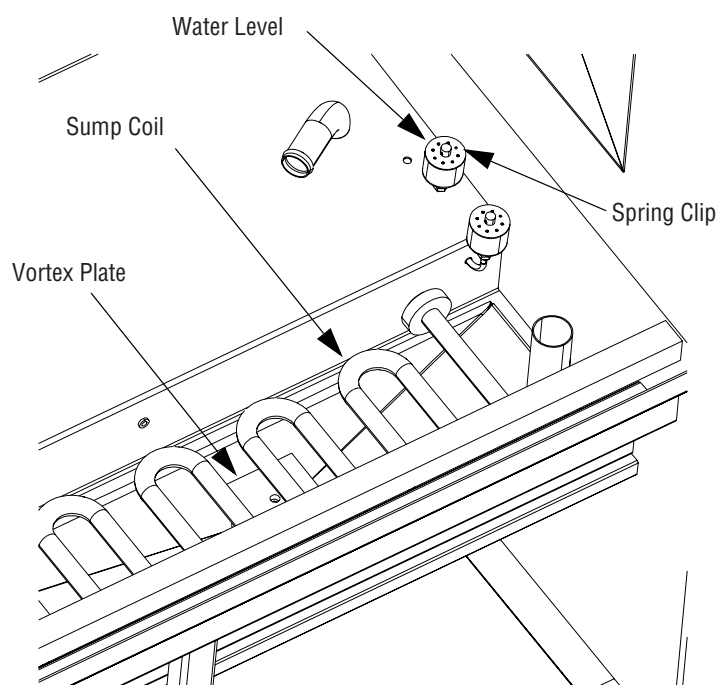

Figure 6-1. Vortex Plate and Water Level
2. Inspect and remove any debris located under and around vortex plate (see Figure 6-1).
1. Locate water level in bottom of sump and remove spring clip holding water level in place (see Figure 6-1).